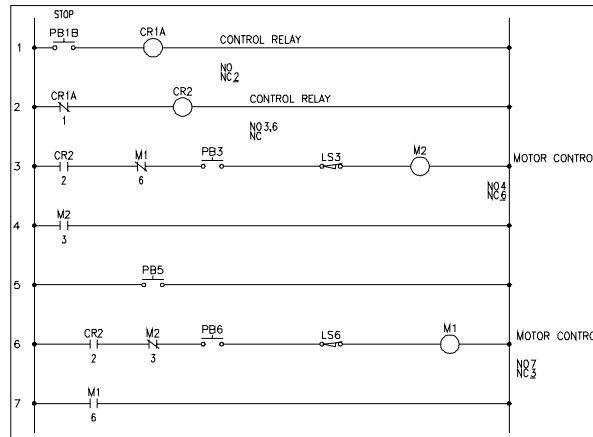

Figure 6-44 M2 moved to a different location
3. Enter **13,13** at the Command prompt and press ENTER; M2 is moved to a new location in rung 6, as shown in Figure 6-44.